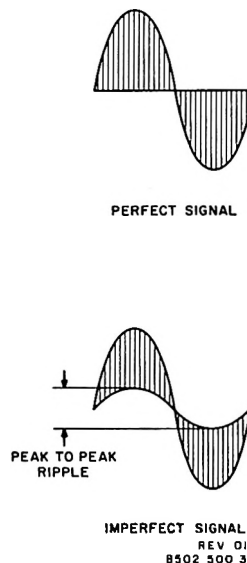

Figure 5-5. Stereo Waveforms.
- h. Adjust channel separation control A2R16 on stereo generator for perfect stereo signal as observed on oscilloscope. (See figure 5-5.)